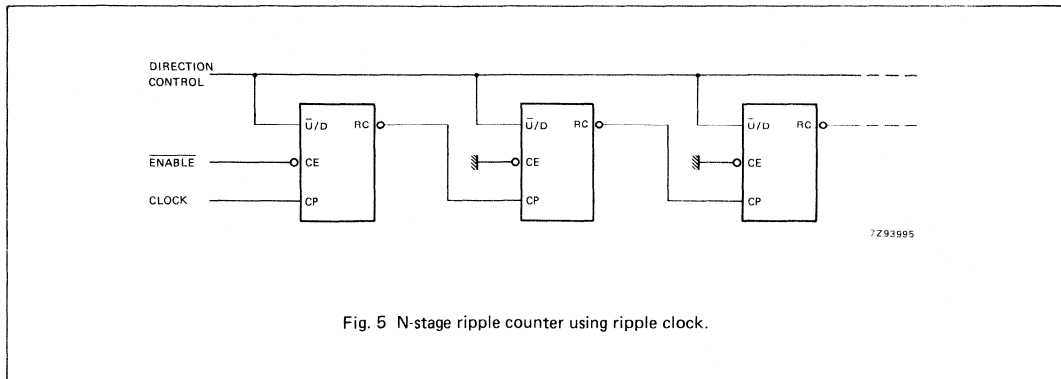
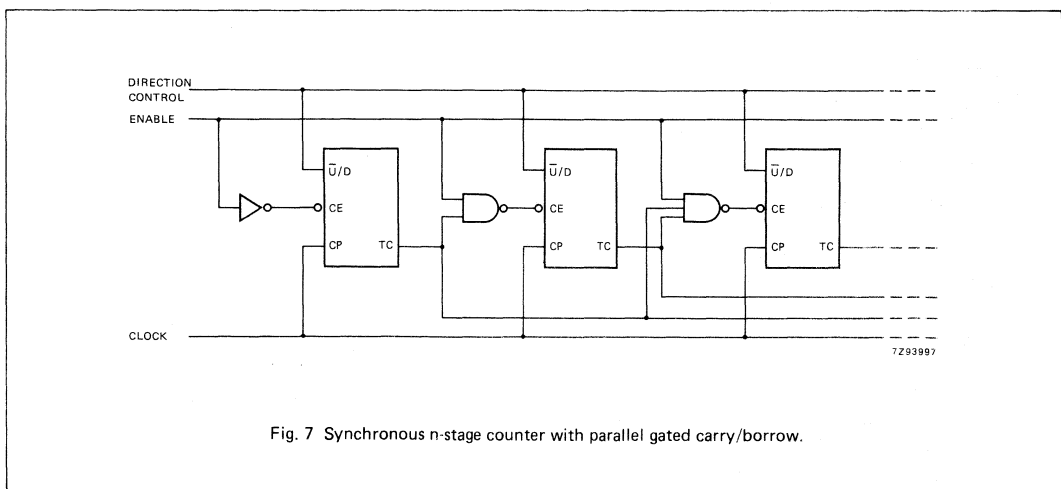

Fig. 5 N-stage ripple counter using ripple clock.
Fig. 7 Synchronous n-stage counter with parallel gated carry/borrow.
Overflow/underflow indications are provided by two types of outputs, the terminal count (TC) and ripple clock (RC). The TC output is normally LOW and goes HIGH when a circuit reaches zero in the count-down mode or reaches "9" in the count-up-mode. The TC output will remain HIGH until a state change occurs, either by counting or presetting, or until U/D is changed. Do not use the TC output as a clock signal because it is subject to decoding spikes. The TC signal is used internally to enable the RC output. When TC is HIGH and CE is LOW, the RC output follows the clock pulse (CP). This feature simplifies the design of multistage counters as shown in Figs 5 and 6.
In Fig. 5, each RC output is used as the clock input to the next higher stage. It is only necessary to inhibit the first stage to prevent counting in all stages, since a HIGH on CE inhibits the RC output pulse as indicated in the function table. The timing skew between state changes in the first and last stages is represented by the cumulative delay of the clock as it ripples through the preceding stages. This can be a disadvantage of this configuration in some applications.
In Fig. 7, the configuration shown avoids ripple delays and their associated restrictions. Combining the TC signals from all the preceding stages forms the CE input for a given stage. An enable must be included in each carry gate in order to inhibit counting. The TC output of a given stage is not affected by its own CE signal therefore the simple inhibit scheme of Figs 5 and 6 does not apply.